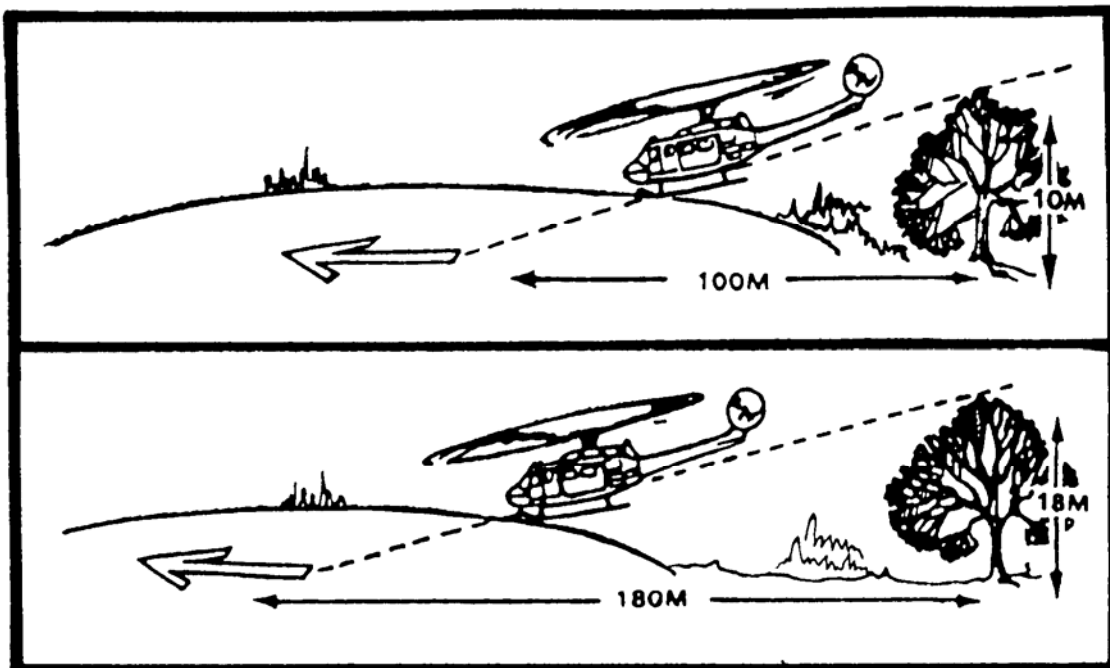

Figure 5-22. Landing site distance from obstacles.
(1) An Iroquois helicopter requires a relatively level landing area at least 35 meters in diameter.
(2) A Blackhawk helicopter requires a landing area of 50 meters in diameter if there are no obstacles.
(3) A CH-47 Chinook requires a landing site at least 80 meters in diameter if there are no obstacles.
(4) This does not mean that a loaded helicopter can land and take off from an area the size given above. Most helicopters cannot go straight up or down when fully loaded. Therefore, a larger site and appropriate approach and departure routes are required.
b. **Obstacles Present.** When obstacles are in the approach or departure route, a 10-to-1 ratio must be used to lay out the landing site. For example, during the approach and departure, if the helicopter must fly over trees that are 15 meters tall, then the landing site must be at least 150 meters long ($10 \times 15 = 150$). Figure 5-22 shows two other examples.